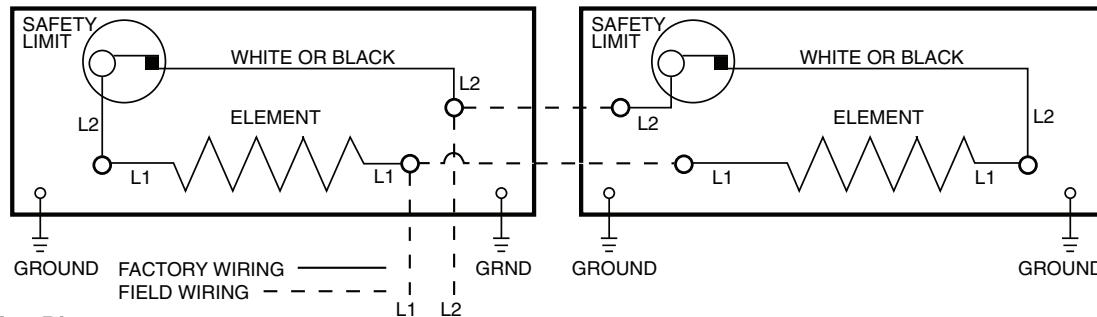

Figure 5: Wiring Diagrams
- d. Wire heater according to wiring diagrams in Figure 5. Reattach the wireway cover using the screws.
8. After making sure the electrical power coming to the heater is turned off at main switch panel follow the desired wiring diagram, as shown in Figure 5, to connect the power supply to the heater using approved wire nuts.